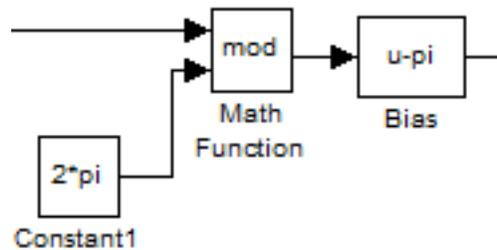

Figure 2.3: SIMULINK® modulus and bias blocks
6. Add modulus and bias blocks, as shown in Figure 2.3, to measure *inverted pendulum angle*, defined as Equation 1.1.